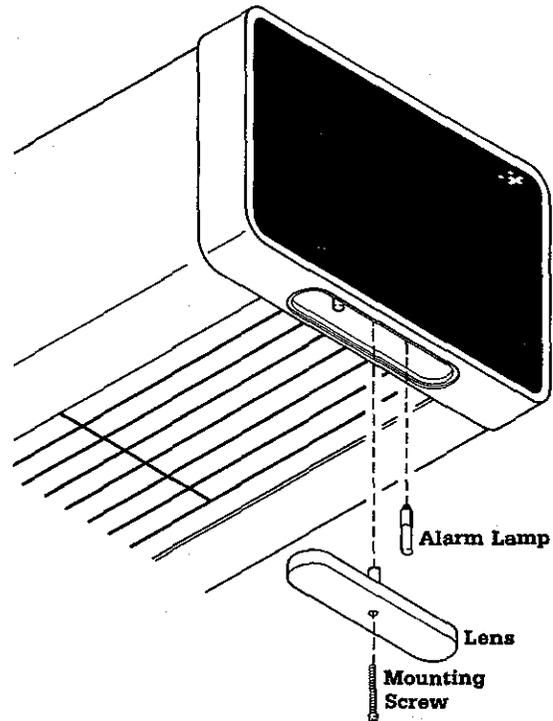

Figure 5-3
D. Alarm Lamp Replacement (Figures 5-3)